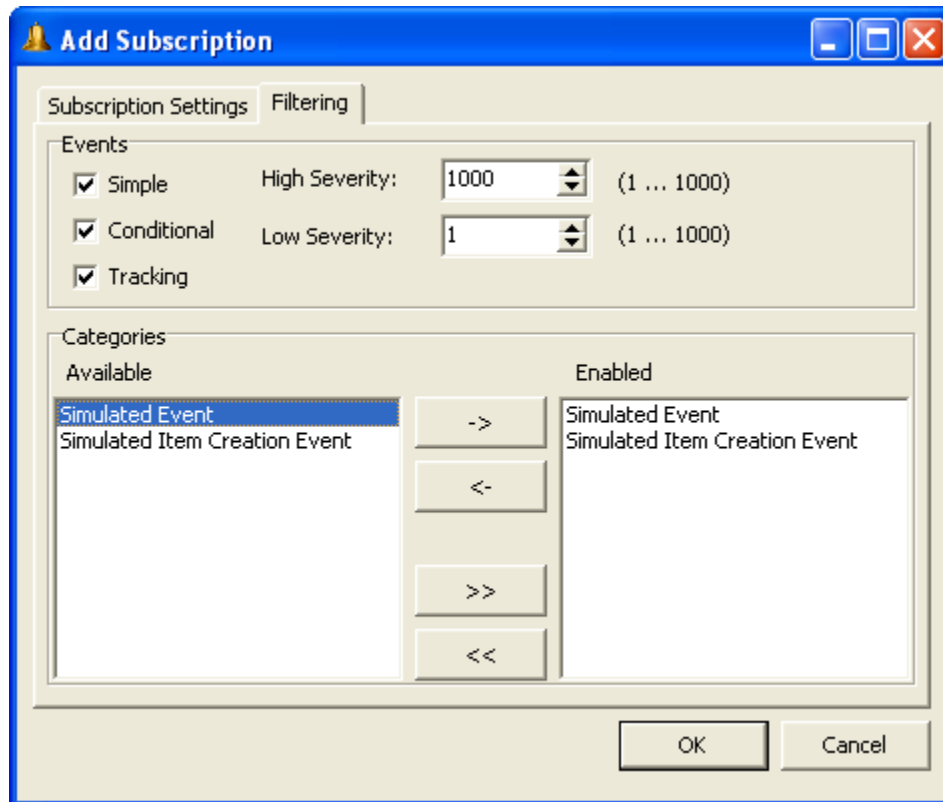

Figure 15 - Add Subscription Window (Filtering Tab)
The **Filtering** tab (Figure 15) filters the subscription alarms by event type, severity, and categories. Table 15 describes the tab components.
6. Select the **Filtering** tab (Figure 15) and make any other required changes.